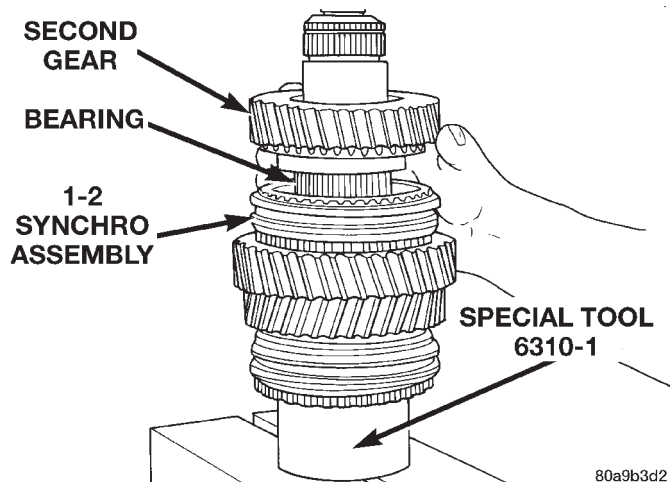

Fig. 69 Second Gear Installation
(23) Install second gear onto shaft and bearing (Fig. 69). Make sure that second gear is fully seated on synchro components.